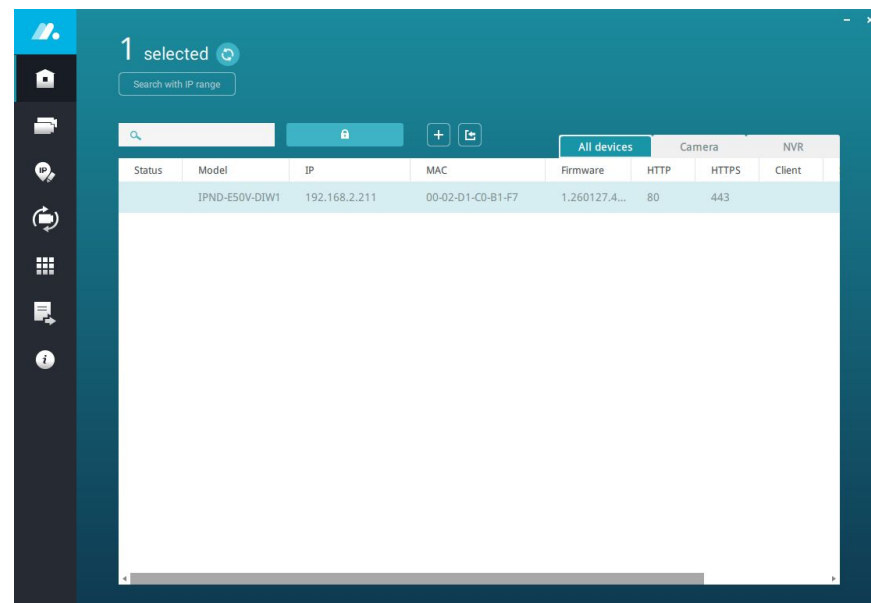

Figure 2-4
- Single-clicking on the device line item will select it, then clicking on the Authorize button (blue button with a white lock). See Figure 2-4.
For devices who's root password has already been set, selecting and authorizing them will open up the use of the additional left menu options (Batch camera update, IP address modification, Maintenance, etc.). See Figure 2-4.